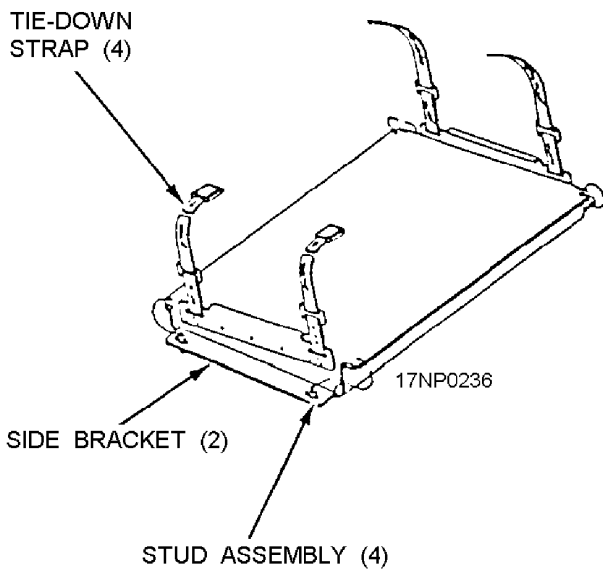

Figure 9-38.—MXU-661/E skid platform adapter assembly.
**MXU-661/E SKID PLATFORM ADAPTER ASSEMBLY.**—The MXU-661/E skid platform adapter assembly (fig. 9-38) consists of an aluminum platform weldment, two side brackets with straps and buckles, and four stud assemblies. Two skid platform adapter assemblies are fastened to the side frames of the Aero 71A skid adapter. One MXU-661/E skid platform adapter assembly is located at each end of the Aero 71A skid adapter and attached by means of a platform stud assembly.